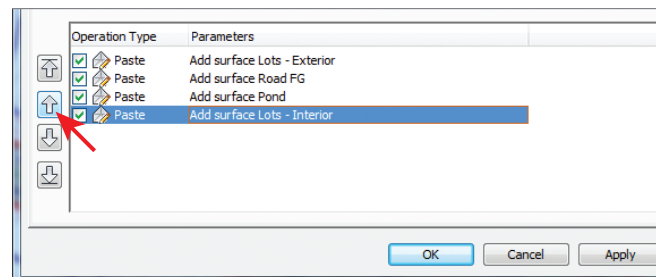

FIGURE 18.3 Clicking the up arrow changes the order of operations so that the Lots – Interior surface is pasted before the Pond surface.
12. On the Surface Properties dialog, on the Definition tab, click Add Surface Lots – Interior and then click the up-arrow icon (see Figure 18.3).